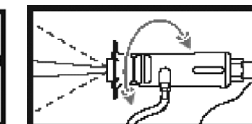

Figure 6
4. Twist nozzle cover to adjust spray pattern from jet to wide fan spray (Figure 6).